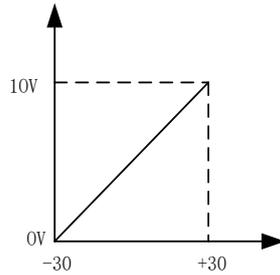

Figure 5-19 Corresponding relation of synergy voltage deviation
3. Corresponding relation of synergy voltage deviation is shown in Figure 5-19.